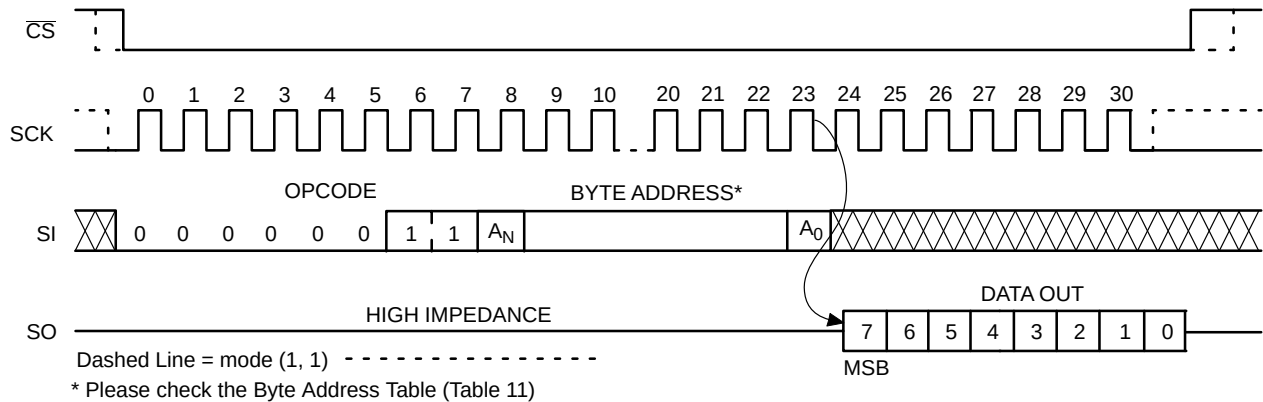

Figure 8. READ Timing
After receiving the last address bit, the NV25xxx will respond by shifting out data on the SO pin (as shown in Figure 8). Sequentially stored data can be read out by simply continuing to run the clock. The internal address pointer is automatically incremented to the next higher address as data is shifted out. After reaching the highest memory address, the address counter “rolls over” to the lowest memory address, and the read cycle can be continued indefinitely. The read operation is terminated by taking $\overline{CS}$ high.
Reading the additional 32-byte Identification Page (IP) is achieved using the same Read command sequence as used for Read from main memory array (Figure 8). **The IPL bit from the Status Register must be set (IPL = 1) before attempting to read from the IP.** The [A4:A0] are the address significant bits that point to the data byte shifted out on the SO pin. If the CS continues to be held low, the internal address register defined by [A4:A0] bits is automatically incremented and the next data byte from the IP is shifted out. The byte address must not exceed the 32-byte page boundary.